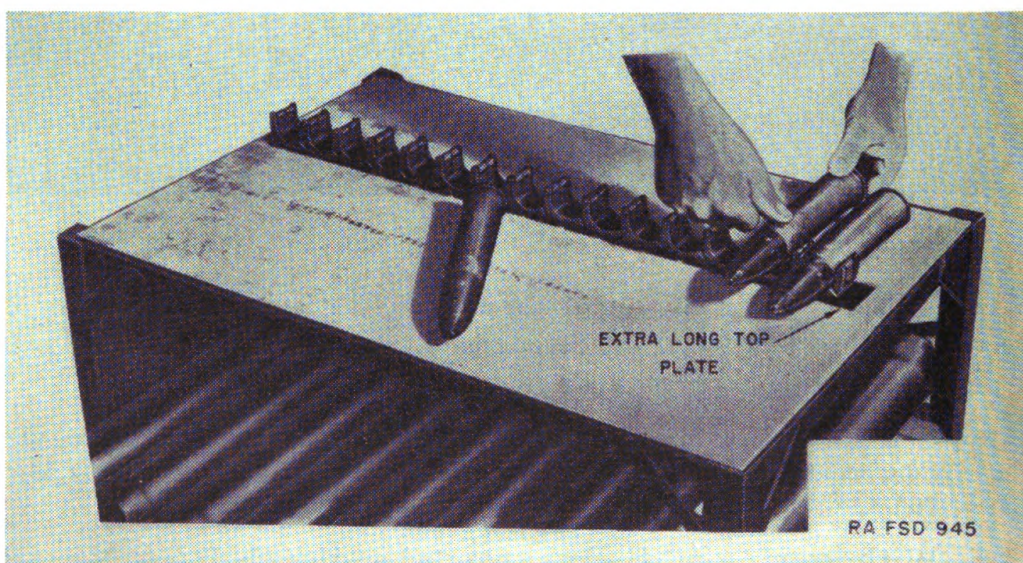

FIGURE 5.—Belt, loading, 15-round link, 37-mm automatic gun M4.
9. Loading 15-round articulated link belt.—*a.* Place the link belt on a flat surface with the spring clips upward and with the long end of the top plate to the left of the operator (fig. 5).